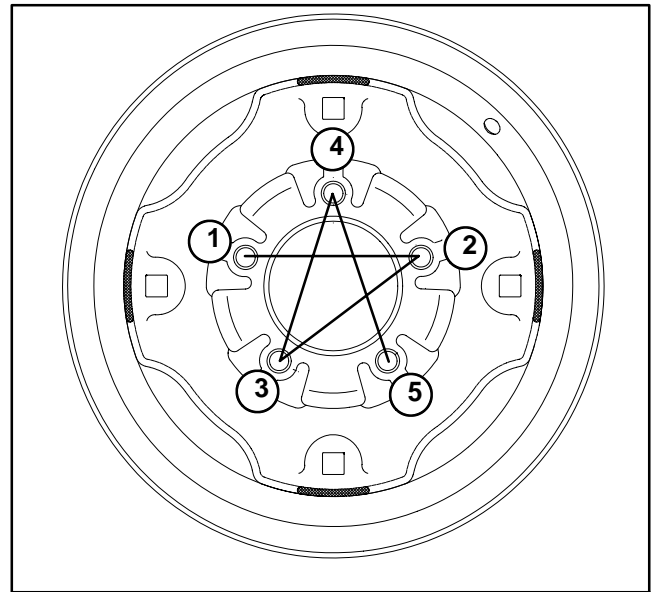

Figure 3
3. Wheel lug nuts should be tightened in a star pattern (Fig. 3) and in two (2) steps. First, tighten all lug nuts to **40 ft-lb (55 N-m)** and then torque all lug nuts to a final torque from **80 to 90 ft-lb (109 to 122 N-m)**.